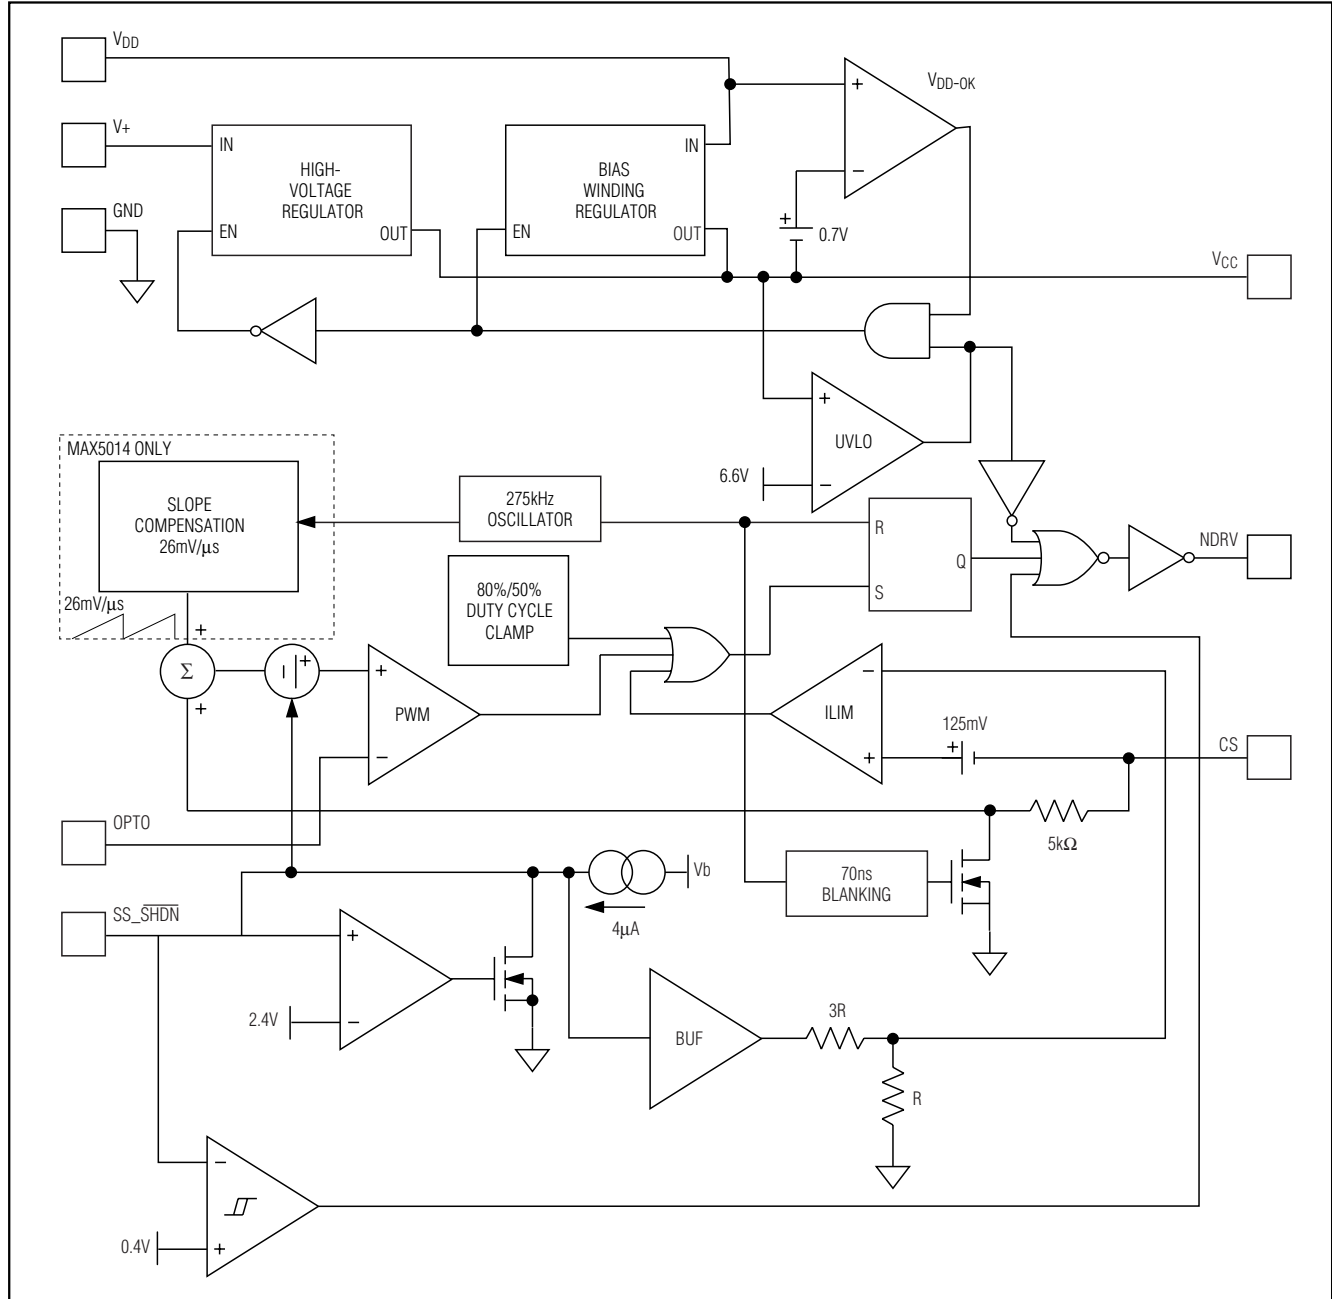
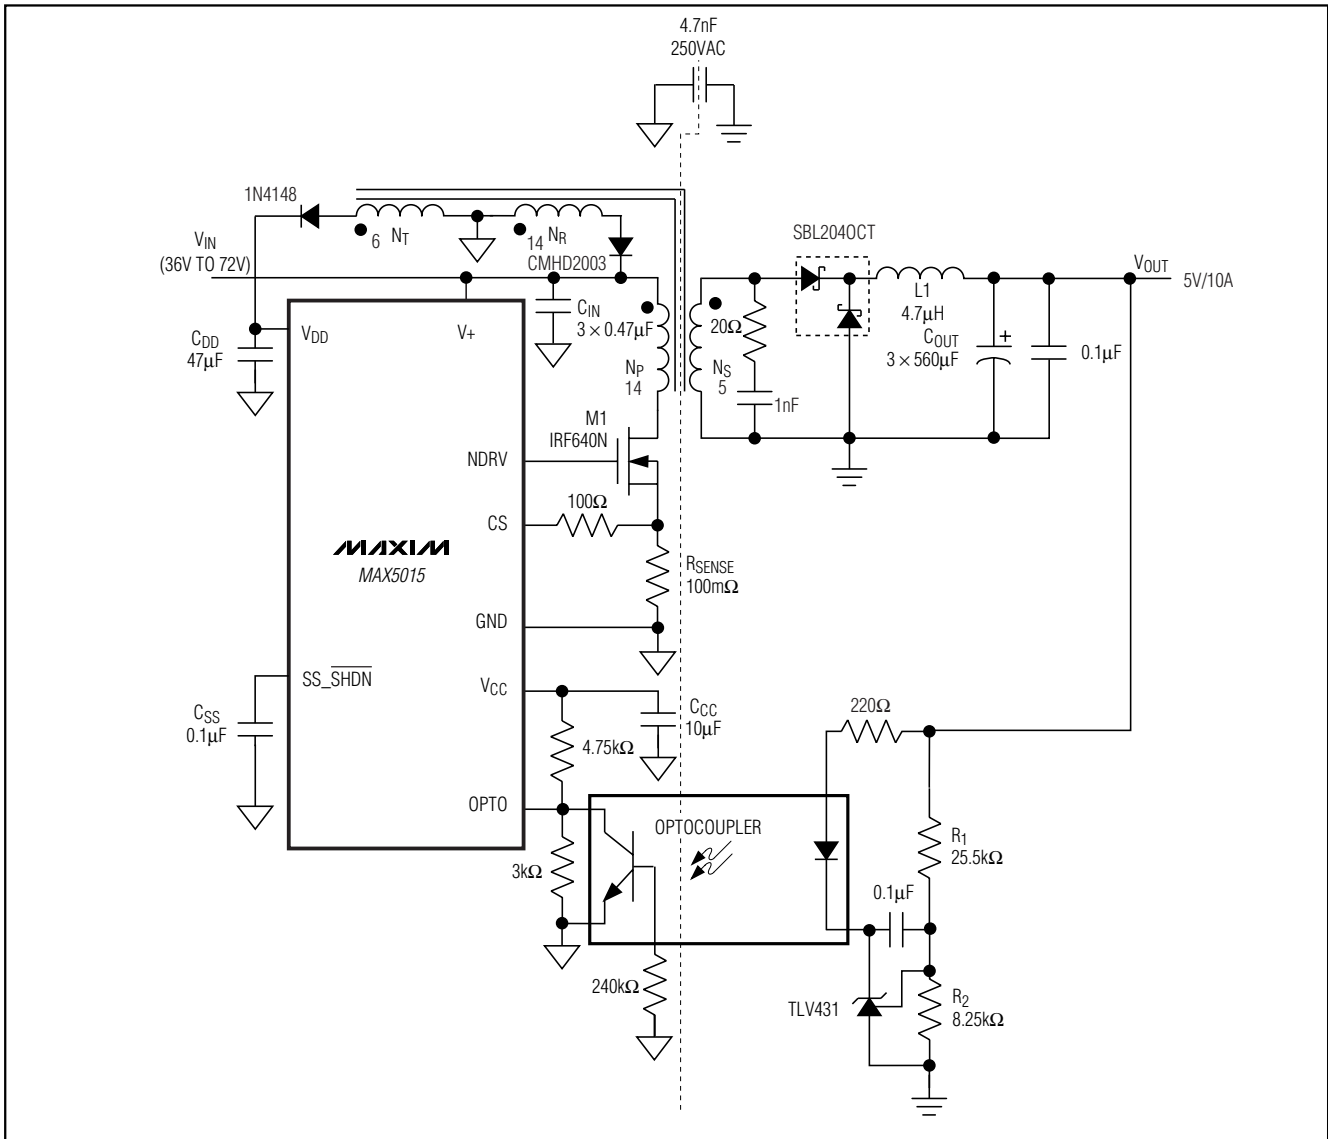
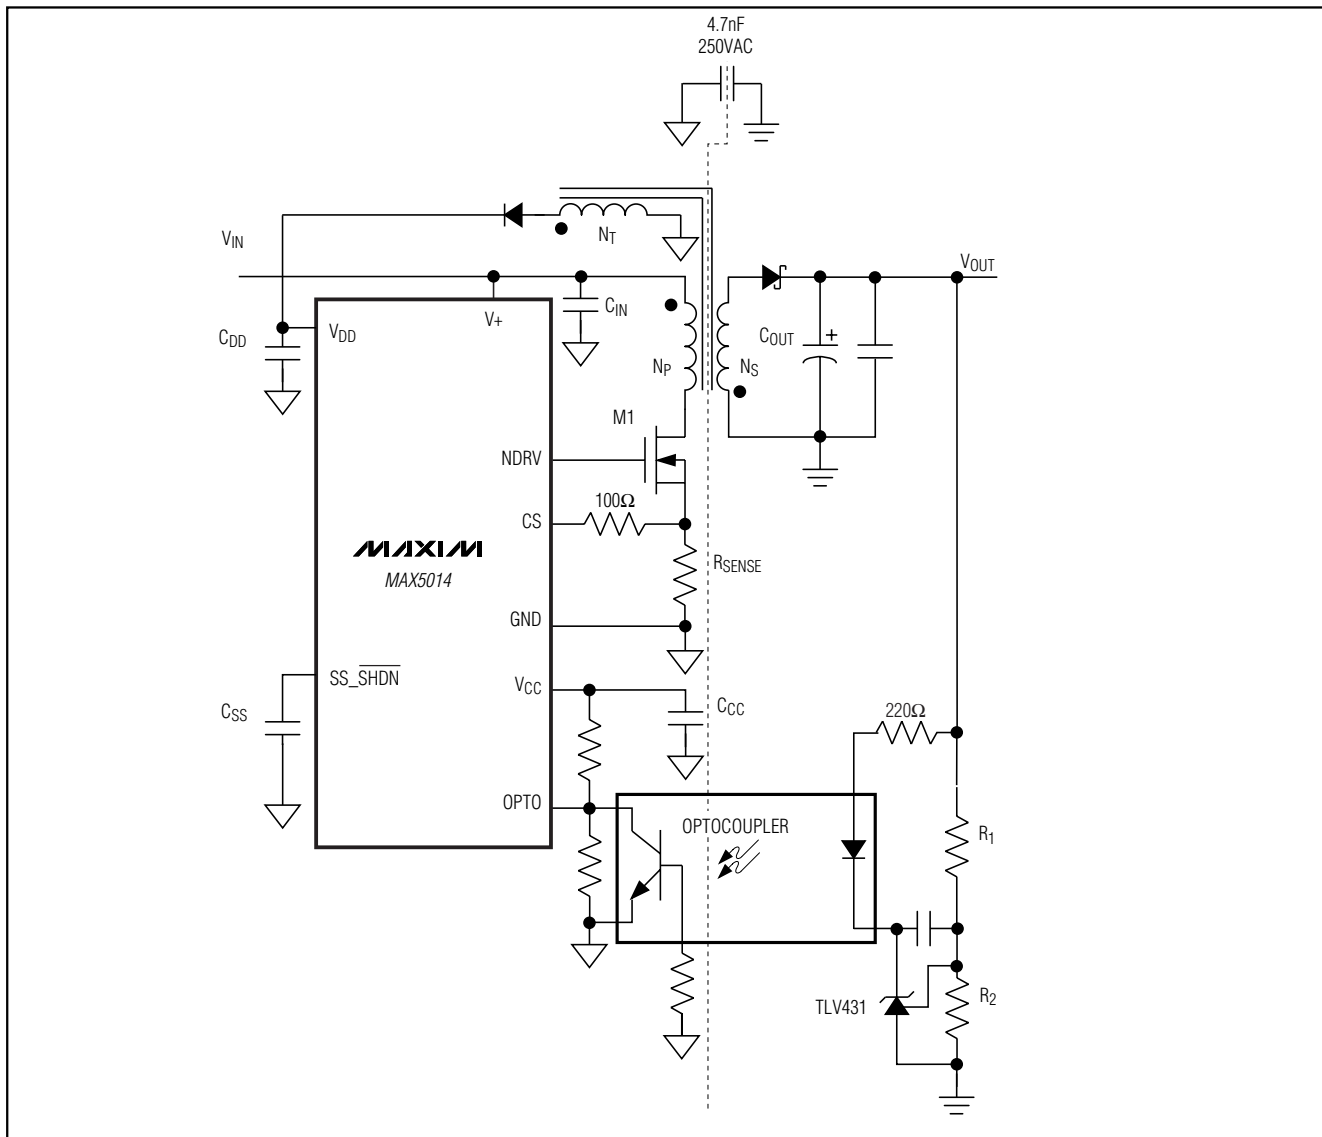

Figure 1. Functional Diagram
Figure 2. Forward Converter
Figure 3. Flyback Converter
Use the MAX5014/MAX5015 PWM current-mode controllers to design flyback- or forward-mode power supplies. Current-mode operation simplifies control-loop design while enhancing loop stability. An internal high-voltage startup regulator allows the device to connect directly to the input supply without an external startup resistor. Current from the internal regulator starts the controller. Once the tertiary winding voltage is established the internal regulator is switched off and bias current for running the IC is derived from the tertiary winding. The internal oscillator is set to 275kHz and trimmed to ±10%. This permits the use of small magnetic components to minimize board space. Both the MAX5014 and MAX5015 can be used in power supplies providing multiple output voltages. A functional diagram of the IC is shown in Figure 1. Typical applications circuits for forward and flyback topologies are shown in Figure 2 and Figure 3, respectively.
Isolated voltage feedback is achieved by using an optocoupler and a shunt regulator as shown in Figure 2. The output voltage set point accuracy is a function of the accuracy of the shunt regulator and feedback resistor-divider tolerance.
where C_{SS} is the soft-start capacitor as shown in Figure 2.
The current-sense (CS) comparator and its associated logic limit the peak current through the MOSFET. Current is sensed at CS as a voltage across a sense resistor between the source of the MOSFET and GND. To reduce switching noise, connect CS to the external MOSFET source through a 100 Ω resistor or an RC low-pass filter (Figures 2, 3). Select the current-sense resistor, R_{SENSE} according to the following equation:
The following is a general procedure for designing a forward converter (Figure 2) using the MAX5015.
The circuit in Figure 2 was designed as follows:
where V_{REF} is the reference voltage of the shunt regulator, and R_1 and R_2 are the resistors shown in Figures 2 and 3.